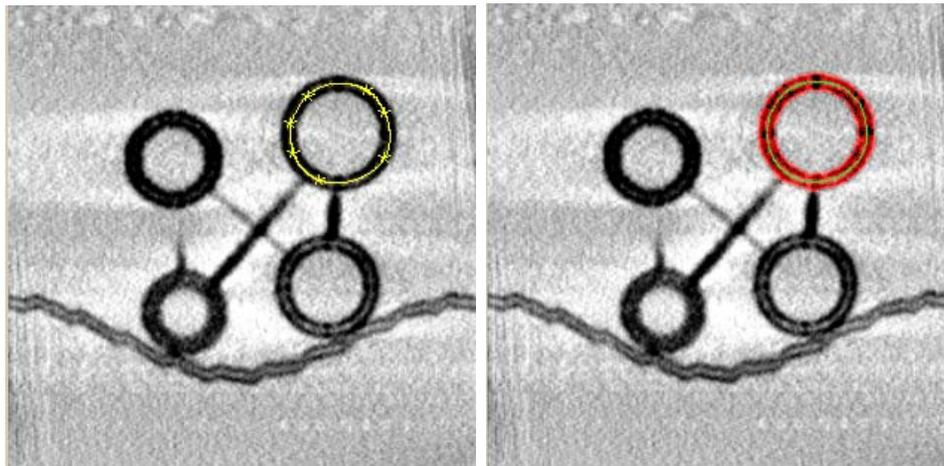

Figure 18: Closed anchor path (left) and resulting segmentation path (right).
5. Press the **Segment** button to generate the segmentation path. Figure 18 shows the results of these operations.